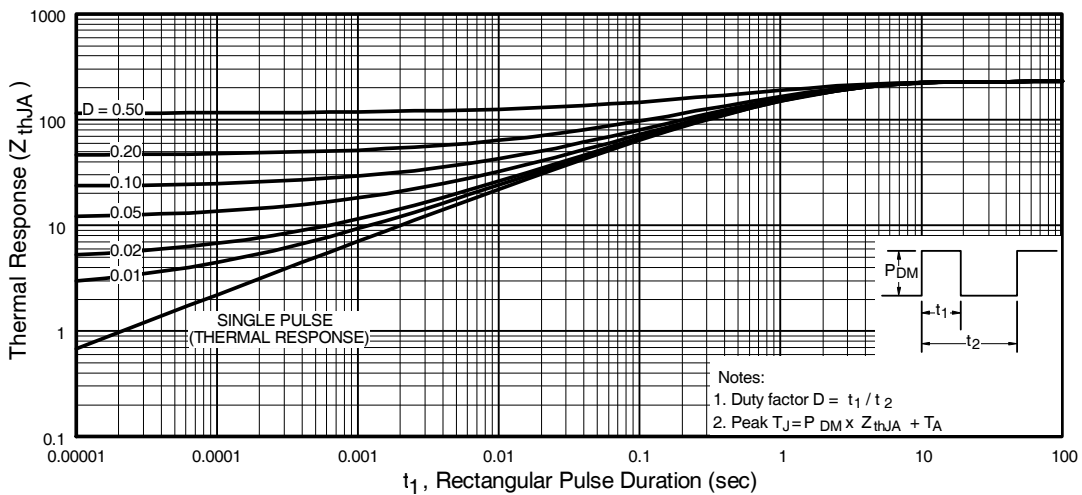

Fig 11. Maximum Effective Transient Thermal Impedance, Junction-to-Ambient
- ① Repetitive rating; pulse width limited by max. junction temperature. (See fig. 11)
- ② I_{SD} ≤ 0.93A, di/dt ≤ 90A/μs, V_{DD} ≤ V_{(BR)DSS}, T_J ≤ 150°C
- ③ Pulse width ≤ 300μs; duty cycle ≤ 2%.
- ④ Surface mounted on FR-4 board, t ≤ 5sec.